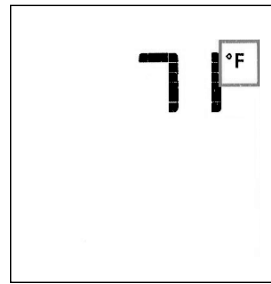

Fig. 14.3. Room temperature readings
- With the transmitter in the OFF position, press the Thermostat Key and the Mode Key at the same time. The display screen will show the current room temperature cycling between Fahrenheit and Celsius indicators each time the keys are pressed simultaneously. Fig. 14.3.